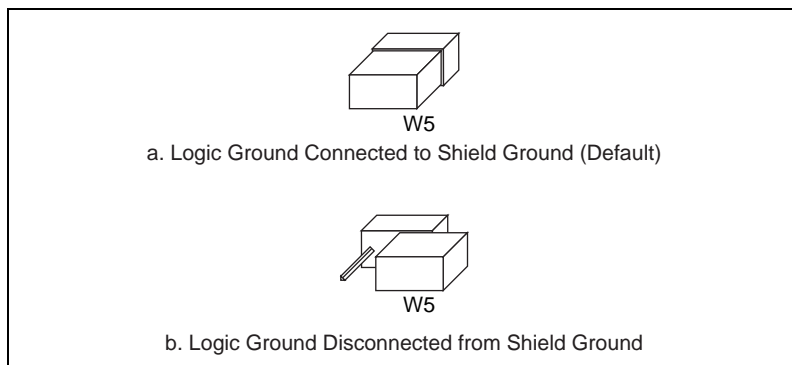

Figure 2-11. AT-GPIB/TNT Ground Configuration Jumper Settings
2. Remove the jumper and place it across only one of the jumper pins, as shown in Figure 2-11.